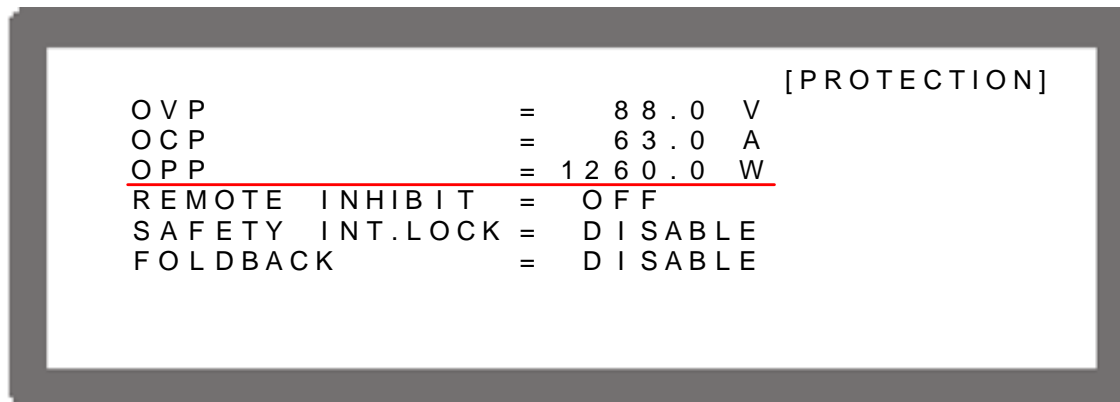

Figure 3-74
- Use the “”, “” keys to move the cursor to the column to be set as Figure 3-74 shows.